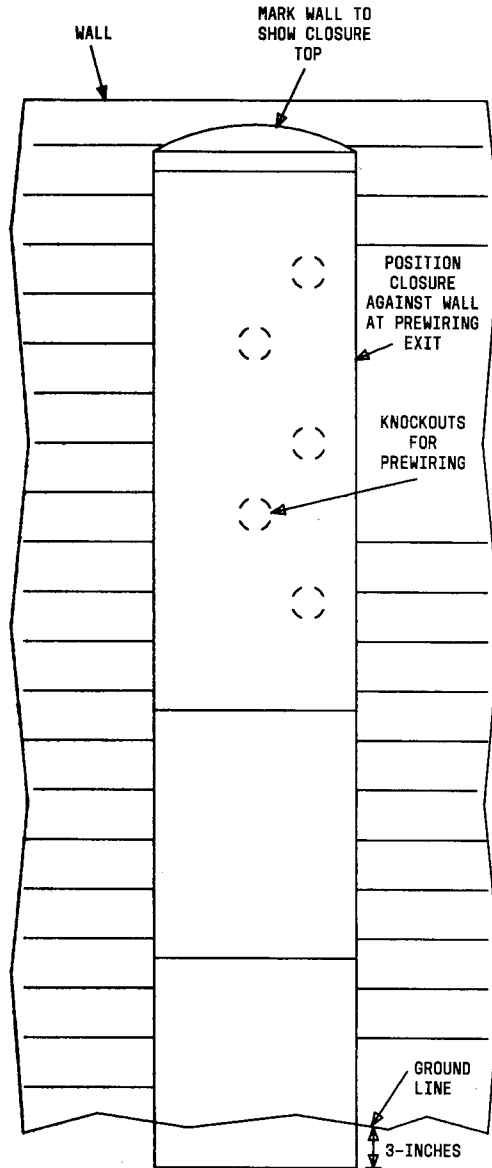
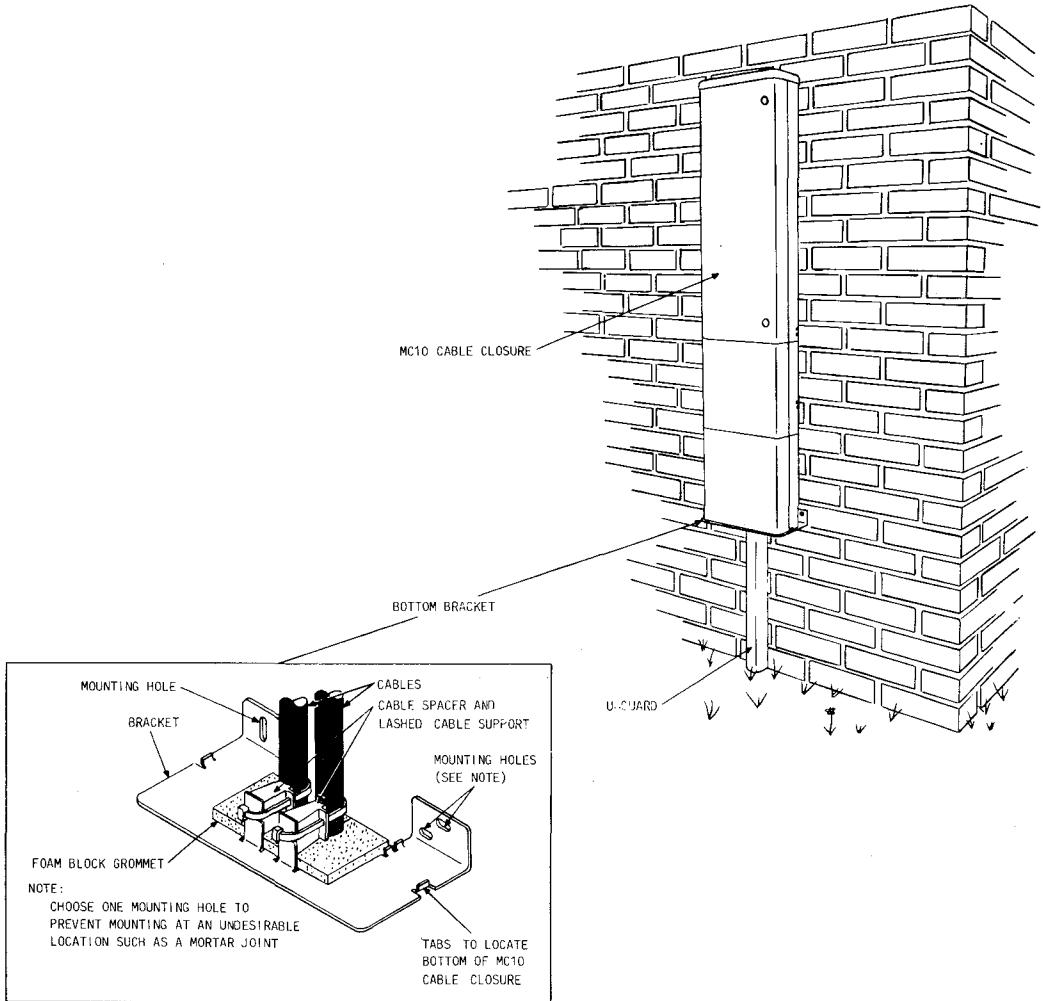

Fig. 4—Positioning Closure and Marking Wall
Fig. 5—Kit of Parts
3.03 Position the closure against the wall at the prewiring exit and mark the wall to show the closure top (marking must not be objectionable to building personnel). See Fig. 4. The bottom of the closure should be 3 inches below final grade; however, if the area in which the closure is to be located is paved, set the closure on the pavement. When it is required that the MC-10/48 cable closure be mounted higher than standard height, it is necessary to support and close the bottom of the cable closure and seal around the cables which enter through the bottom. This is accomplished by a kit of parts (D-181120) which consists of a bracket, a foam block, and an instruction sheet (Fig. 5).